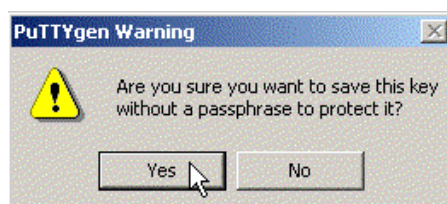

Figure 4-4 Saving the private key without passphrase
- d. You are prompted with a warning message as shown in Figure 4-4. Click **Yes** to save the private key without a passphrase.